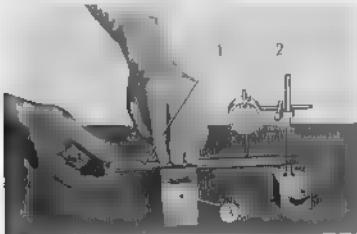

Fig. 4.89 Measuring bend of axis
- Check the front axle for wear and bend (Fig. 4.89)